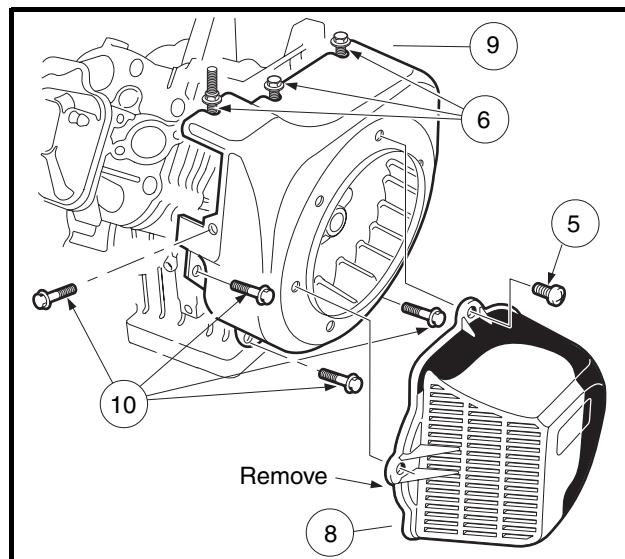
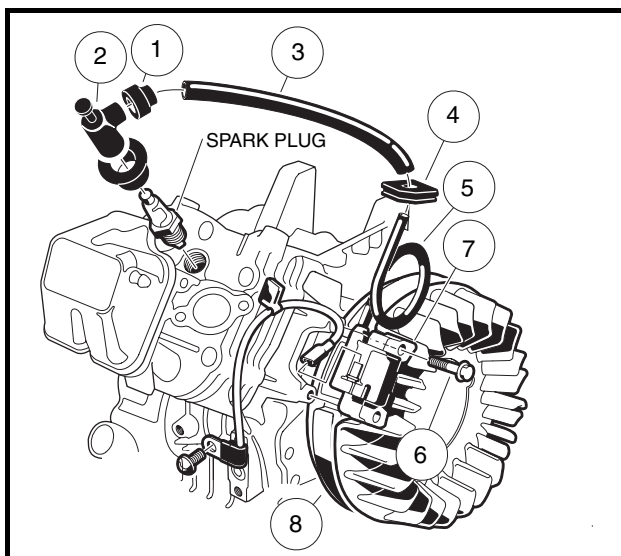
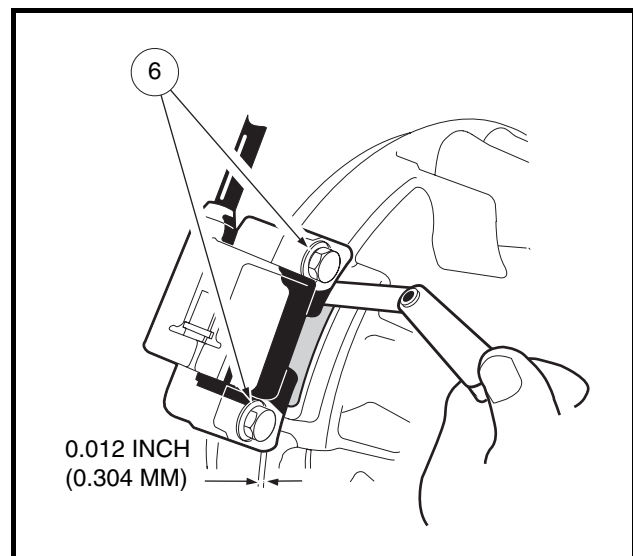

Figure 12-25 Remove Fan Housing
Figure 12-27 Clean Grommet
Figure 12-28 Mount Ignition Coil Using Feeler Gauge
7. Remove the pan head bolts (5) securing the fan shroud (8) to the fan housing (9) (**Figure 12-25, Page 12-24**).
8. Loosen, but do not remove, three bolts (6) attaching the fan housing as shown.
9. Remove the remaining four bolts (10) attaching the fan housing (**Figure 12-25, Page 12-24**), then while opening the housing, detach the spark plug wire grommet (4) from the housing (**Figure 12-27, Page 12-25**).
1. Remove the rubber gasket (1) on the plug cap (2) by rolling back the gasket onto the spark plug wire.
2. Remove the cap (2) from the wire by turning the cap counterclockwise three or four revolutions while gently pulling it off the wire (**Figure 12-27, Page 12-25**).
3. Remove the gasket (1) and protector tube (3) from the old coil. **See following NOTE.**
4. Remove the grommet (4) from the old spark plug wire. Clean the grommet and place it on the new spark plug wire (5).
5. Install the protector tube (3) onto the new wire (**Figure 12-27, Page 12-25**).
6. Slide the gasket (1) onto the end of the new spark plug wire.
7. Install the cap (2) on the new coil spark plug wire by rotating it clockwise three or four revolutions while applying light pressure on the cap.
8. Install the gasket (1) on the cap (2).
9. Position the ignition coil (7) onto the cast mounting bosses on the engine crankcase and tighten the two mounting bolts (6) finger-tight.
10. Rotate the flywheel (8) until the magnet is positioned directly under the ignition coil. Use a 0.012 inch (0.304 mm) bronze feeler gauge to set the air gap between the ignition coil and the flywheel magnet. Tighten the two mounting bolts (6) to 30 in-lb (3.4 N·m) (**Figure 12-28, Page 12-25**).
13. When installing fan housing, make sure the top front corner of the housing is above the upper cylinder shroud. The front edge of the fan housing should be behind the lower cylinder shroud. Align the slots in the housing with the flanged bolts (6) loosened earlier (**Figure 12-25, Page 12-24**).
14. Install the four remaining flanged bolts (10) that secure the fan housing to the engine crankcase. Tighten all seven mounting bolts (6) and (10) to 90 in-lb (10.2 N·m).
15. Install the fan shroud with four pan-head bolts (5) and tighten to 50 in-lb (5.7 N·m).